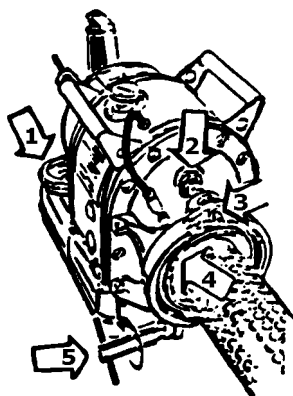

Figure A-1. Preparation for operation
- b. Tighten the fuel tank cap (number 1 at fig A-1).
- c. Check the air shut-off valve (number 2 at fig A-1) by pushing the pin in (number 3 at fig A-1). The pressure pin must bounce back.